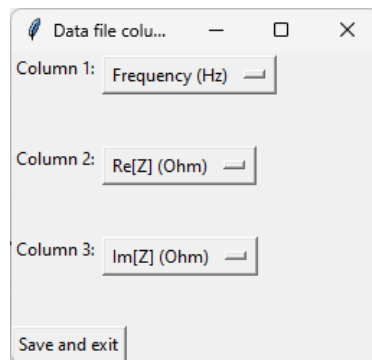

Figure 41: Restoring the default data file layout specification.
5. To go back to the standard loading settings, go to **File>Specify data file layout...** and select the settings indicated in Figure 41.